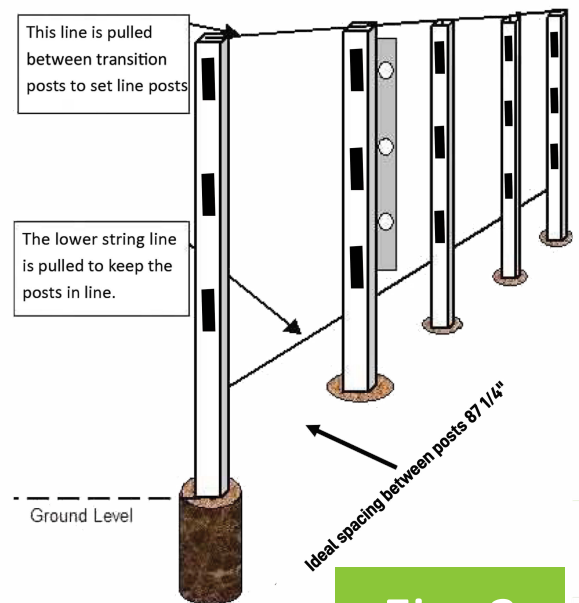

Fig. 3
4. Begin by setting the end and corner posts. Plumb and level each post to the string line using a post level or 4' level. Make sure that the posts are next to but not pushing the string line. String a line from the top of each end post and set the remaining posts to this height. Fill the hole with concrete and brace if necessary until concrete is cured. Allow concrete to dry 24-48 hours (depending on temperature) before building (see Fig. 3)